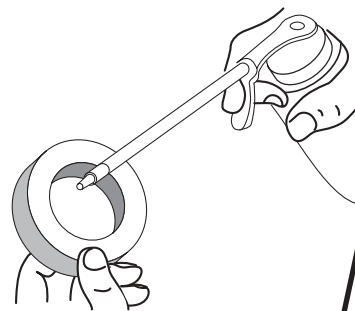

FIGURE 36
4. Apply enough clean SAE 30 oil to lightly coat the filter, Figure 36.